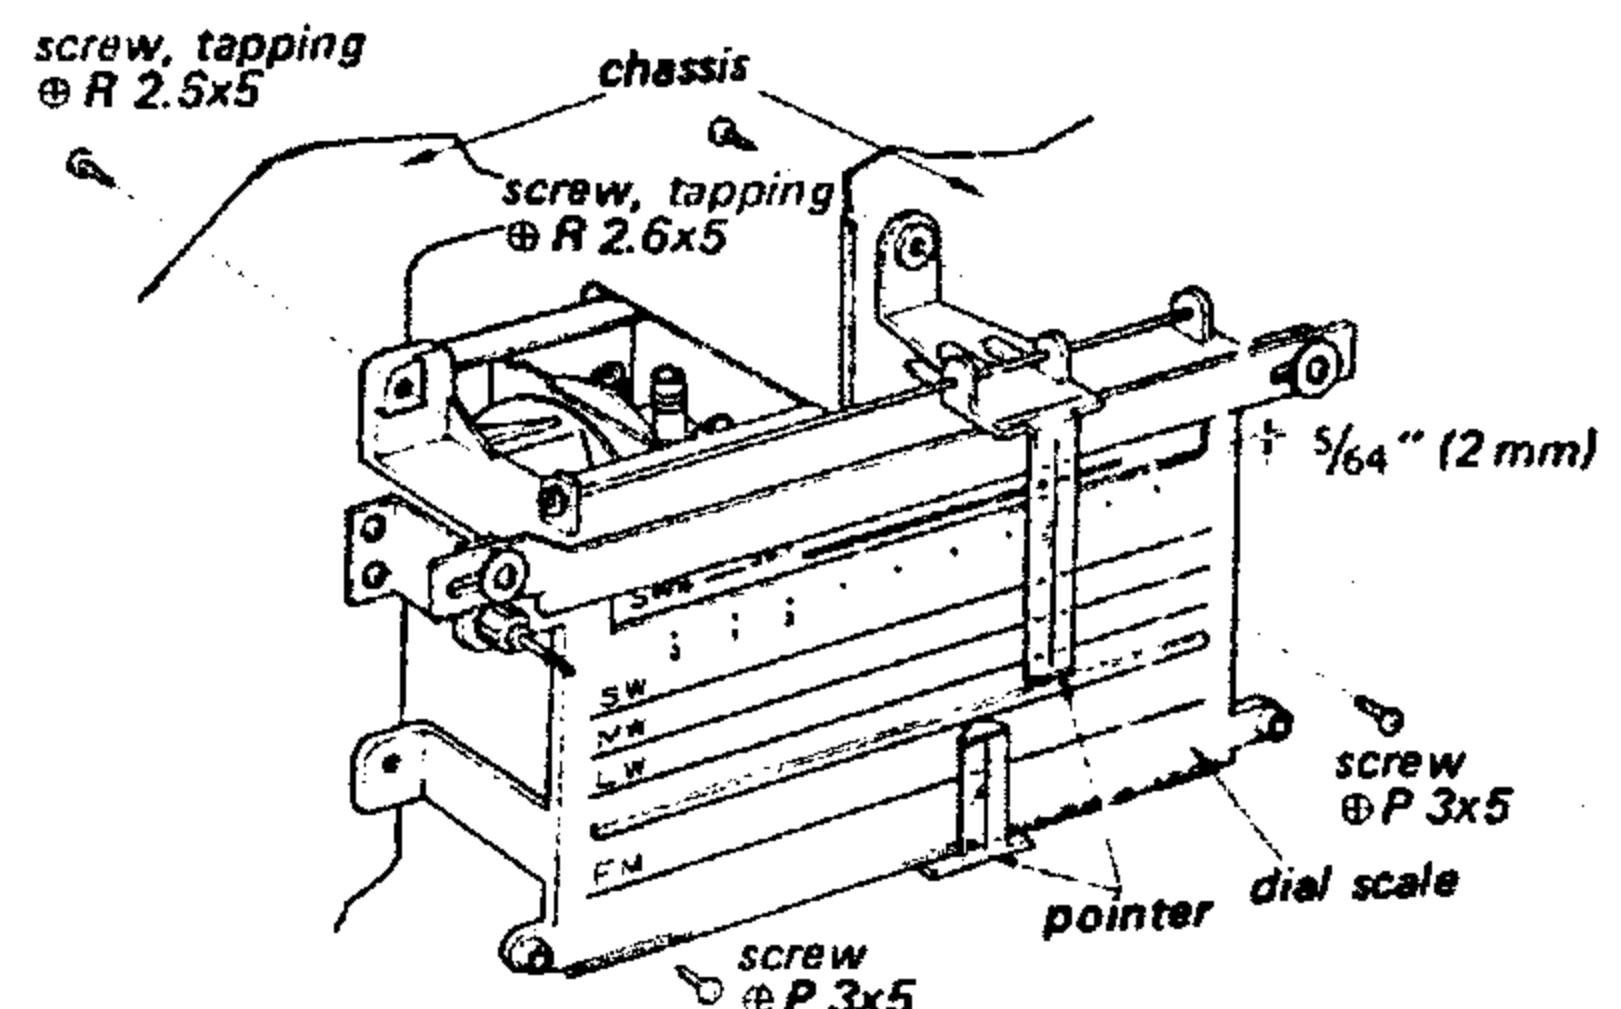

Fig. 2-15
4. Turn the dial drum so that the drum indicates SW10 and the distance between the dial scale and the line on the drum becomes  $5/64$  inches (2mm) as shown in Fig. 2-15.
2. Remove the four screws shown in Fig. 2-15.